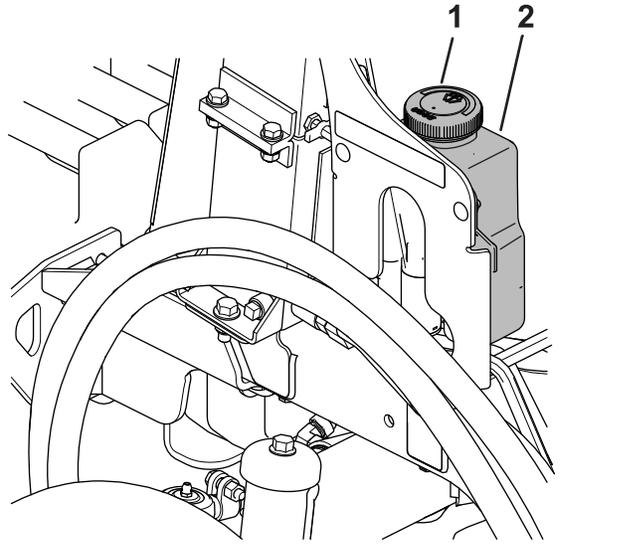

Figure 91
1. Remove the cap (Figure 91) on the reservoir.